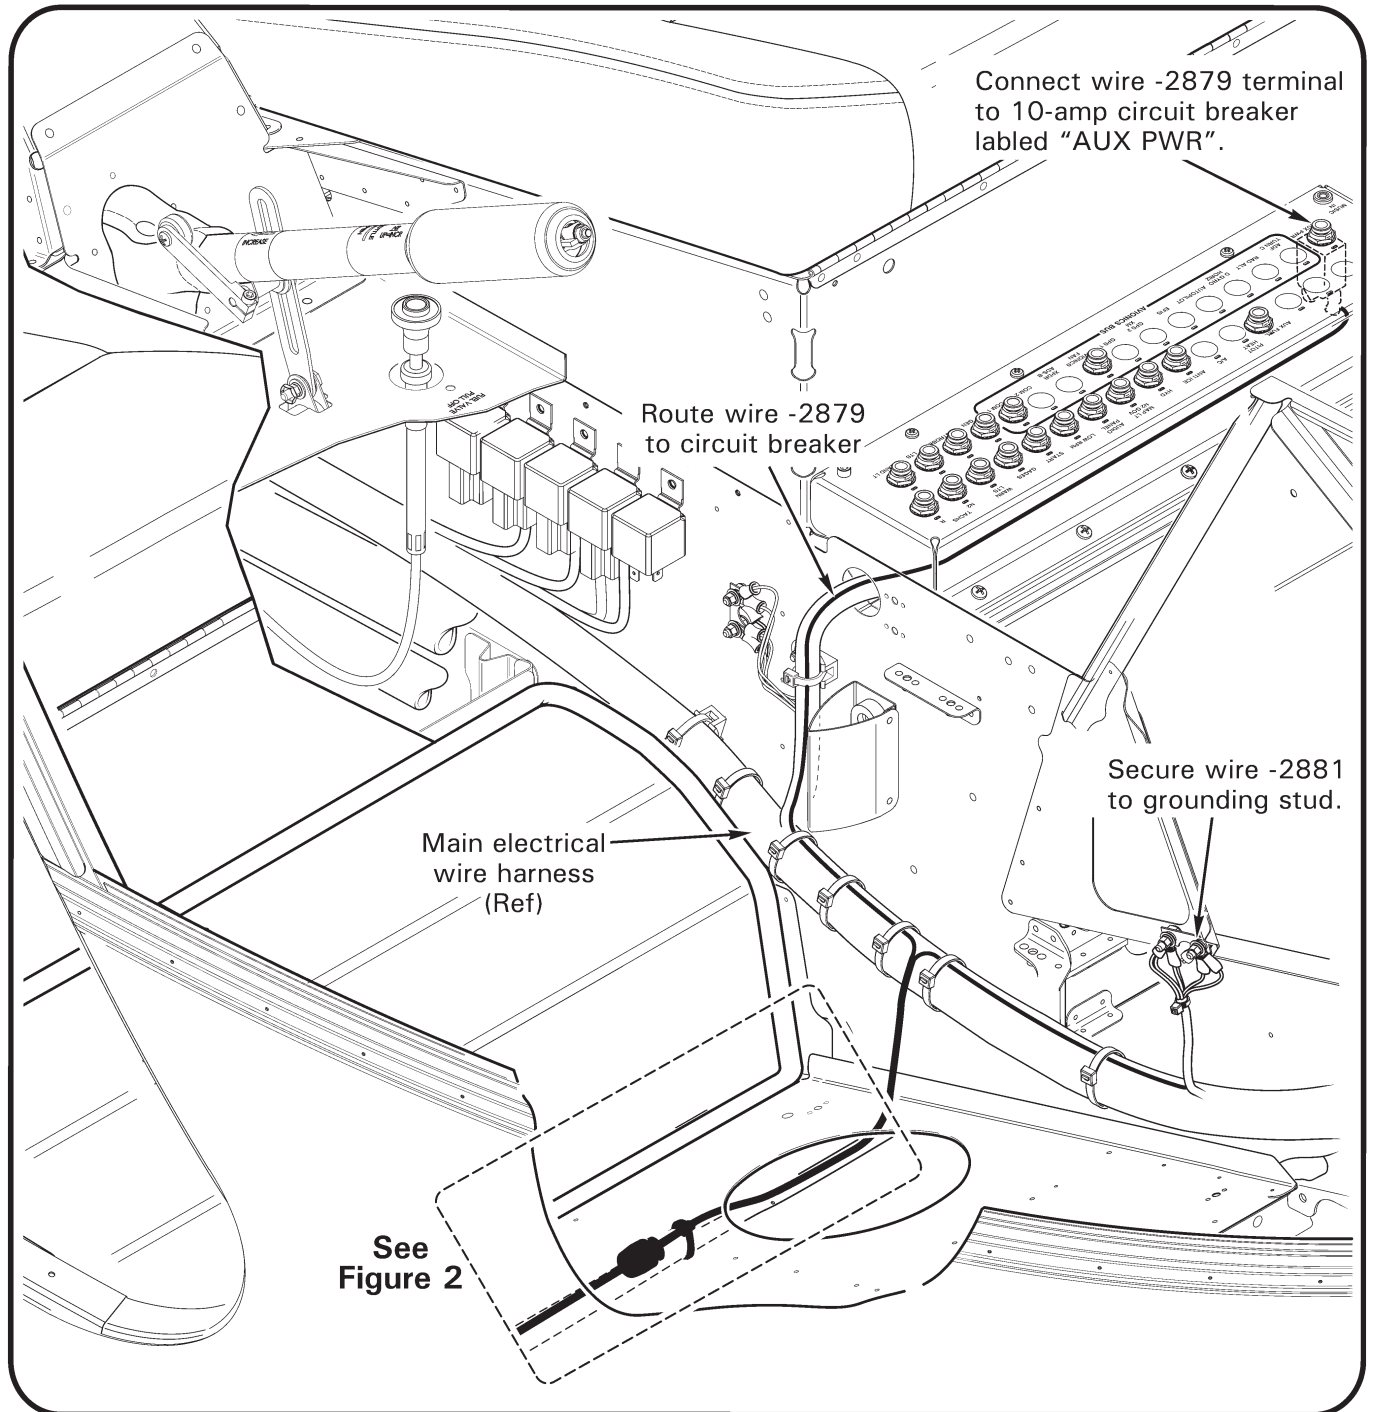

FIGURE 3
11. Refer to Figure 3. On G142-4B wire sub-assembly (wire -2881), connect B260-3 terminal to grounding stud on panel forward of cyclic box using existing nut. Route wire -2881 aft along main harness, across tunnel, under heater hose and F293-2 panel, following wire -2879 to fuse holder. Secure wires using MS3367-5-9 or MS3367-7-9 ty-raps as required. Cinch ty-raps until snug without overtightening and trim tips flush with heads. Verify wires are secure and clear of flight controls.